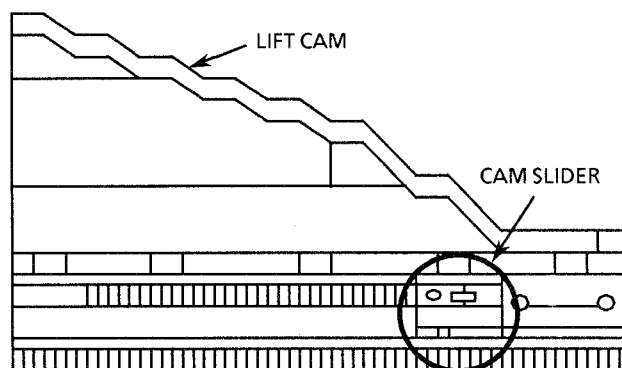

Fig 10
1. When installing the lift cam, Put the cam slider to the position shown in fig 10.